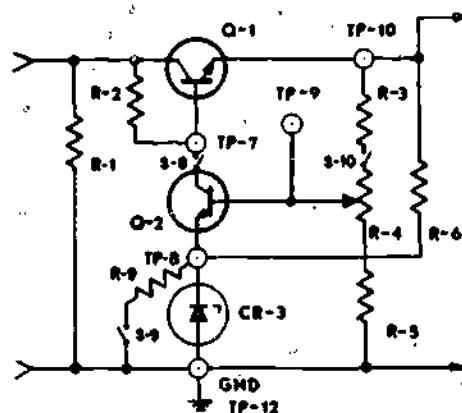

Figure 36-4. Power Supply Regulator
(1) Insert OPEN TRANSISTOR COLLECTOR Q-2 with S-6 and locate on figure 36-4, Power Supply Regulator.
(2) Use the schematic diagram and the recorded measurements to analyze the malfunction.
(3) Answer the following questions:
(1) Locate this trouble on figure 36-4.
(2) Use the schematic diagram and the recorded measurements to analyze malfunction.